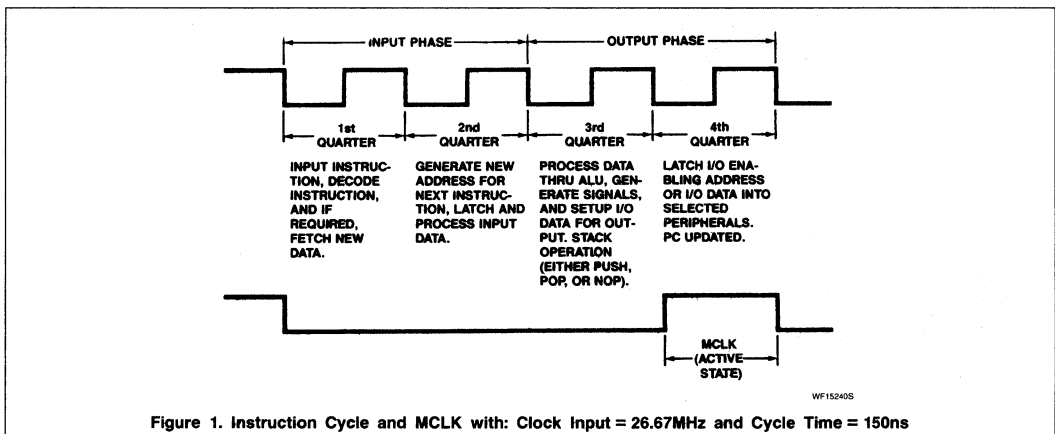

Figure 1. Instruction Cycle and MCLK with: Clock Input = 26.67MHz and Cycle Time = 150ns
6. Note that the stack operation is shown before the PC in the CALL and INTERRUPT formats. This is because the stack is actually in operation in cycle 3, and the PC is updated in cycle 4 (see Figure 1). In fact, for the Call (JSR) instruction and interrupt servicing, cycle order is important for the user to understand the current status of the PC. The other instructions are in reverse order for visual simplicity in keeping with block diagram flow, and cycle order is irrelevant.